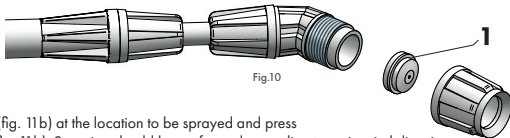
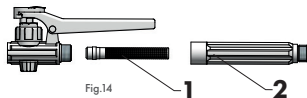

Fig.10
Fig.14
The filter (fig. 14/pos. 1) located on the lance handle (fig. 14/pos. 2) and the spraying nozzle (fig. 10/pos. 1) located at the lance tip (fig. 1/pos. 1) must be cleaned periodically and before any prolonged downtime.